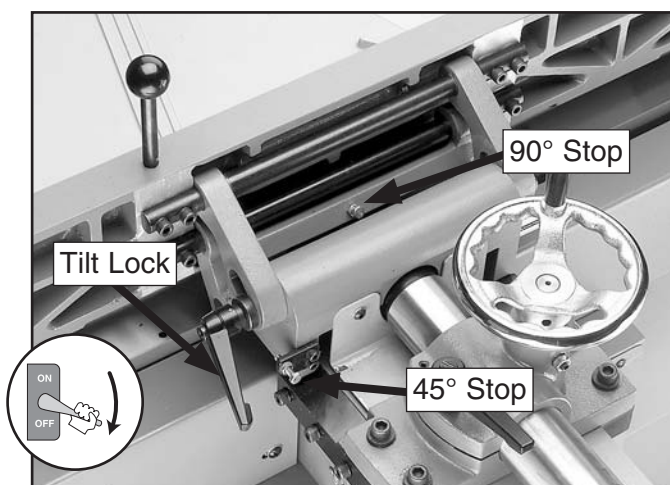

Figure 67. Fence tilting controls.
2. Loosen the tilt lock and the 90° stop jam nut, then back off the stop bolt (see **Figure 67**).
2. Loosen the tilt lock and the 45° stop jam nut, then back off the stop bolt (see **Figure 67**).